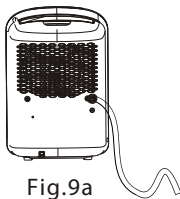
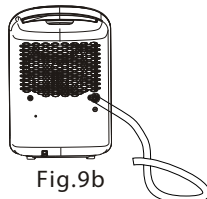

Fig.9a
Fig.9b
- Be sure to run the water hose sloping downward and let the water to flow out smoothly. Do not install the water hose as shown in Fig.9a and Fig.9b.